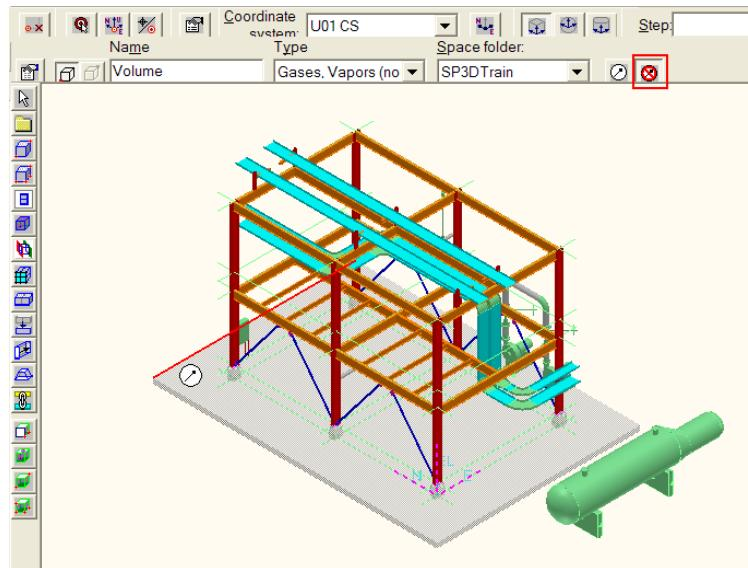

Figure 6: Locate First Point
9. Toggle the associative points off (see highlighted button) and then locate the corner of the slab with the smartsketch key point and click to define the first point of the rectangular volume (Refer to Figure 6).